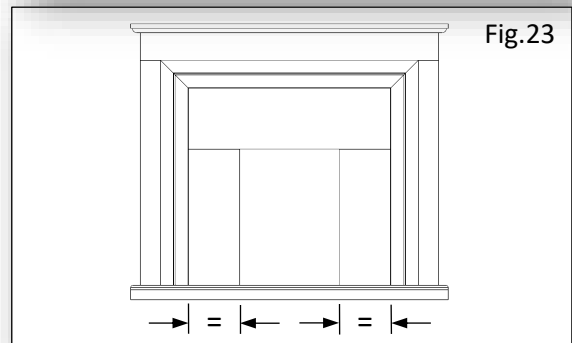

Fig.23
32. Lift the Back Panel on to the rear of the surround and position centrally. Take care not to trap the factory fitted LED down light cable. Working from the front of the Surround confirm the Back Panel legs are at equal widths in the surround aperture. Fig.23.